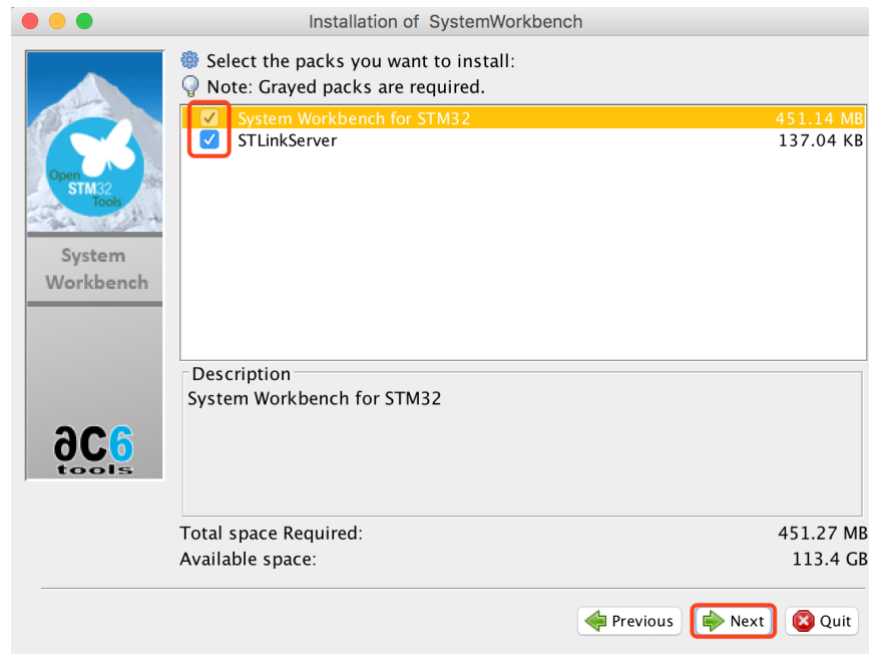

Figure 7: Install everything in the package
12. Make sure that all installation options have been checked and click next to continue. See Figure 7.